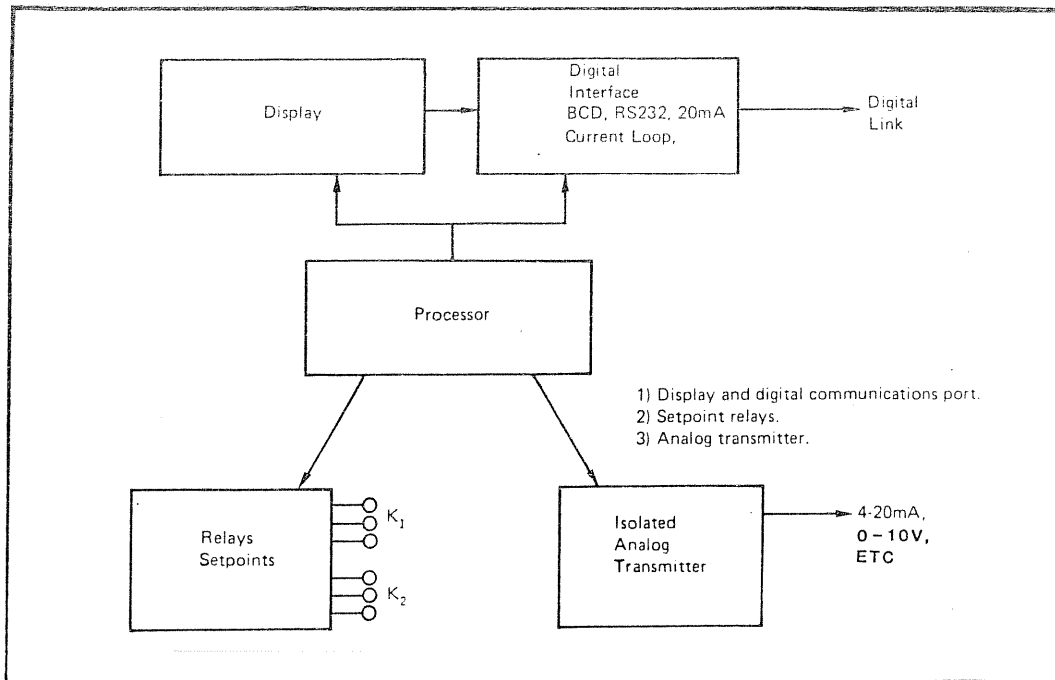

Figure 2-2. Basic Internal Subsystems
2.3 Operation Overview. The Series V unit has three internal subsystems. Refer to Figure 2-2. The subsystems are: (a) display and digital communications port, (b) set point relays, (c) analog transmitter.